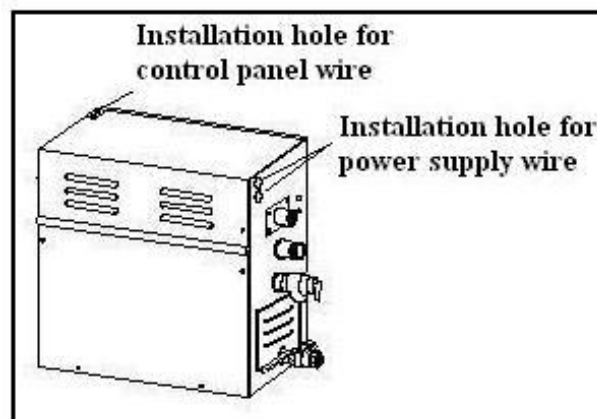

Figure 12
- 1) Open the installation hole on the front cover of the generator (refer to Figure 12).